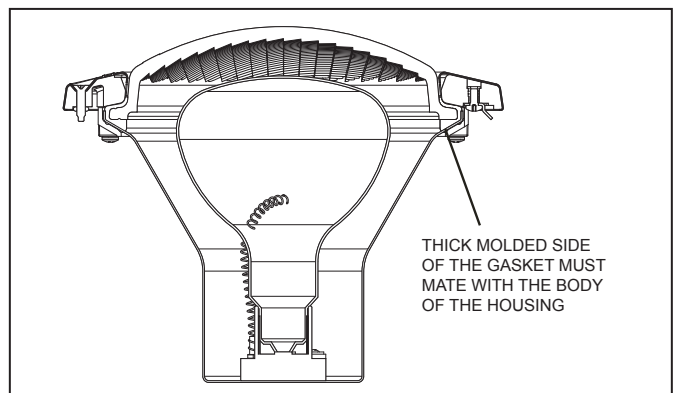

Figure 11. Cross Section of Jandy Pool White Light
- b. While holding the fixture upright, place the glass lens with the gasket on top of the fixture. Please note that the lens gasket is not symmetrical. Therefore, it must be installed correctly so that the lens can seal to the fixture housing. Place the gasket on the lens so that the thick molded side of the gasket will mate with the housing when the lens is installed. See Figure 11.